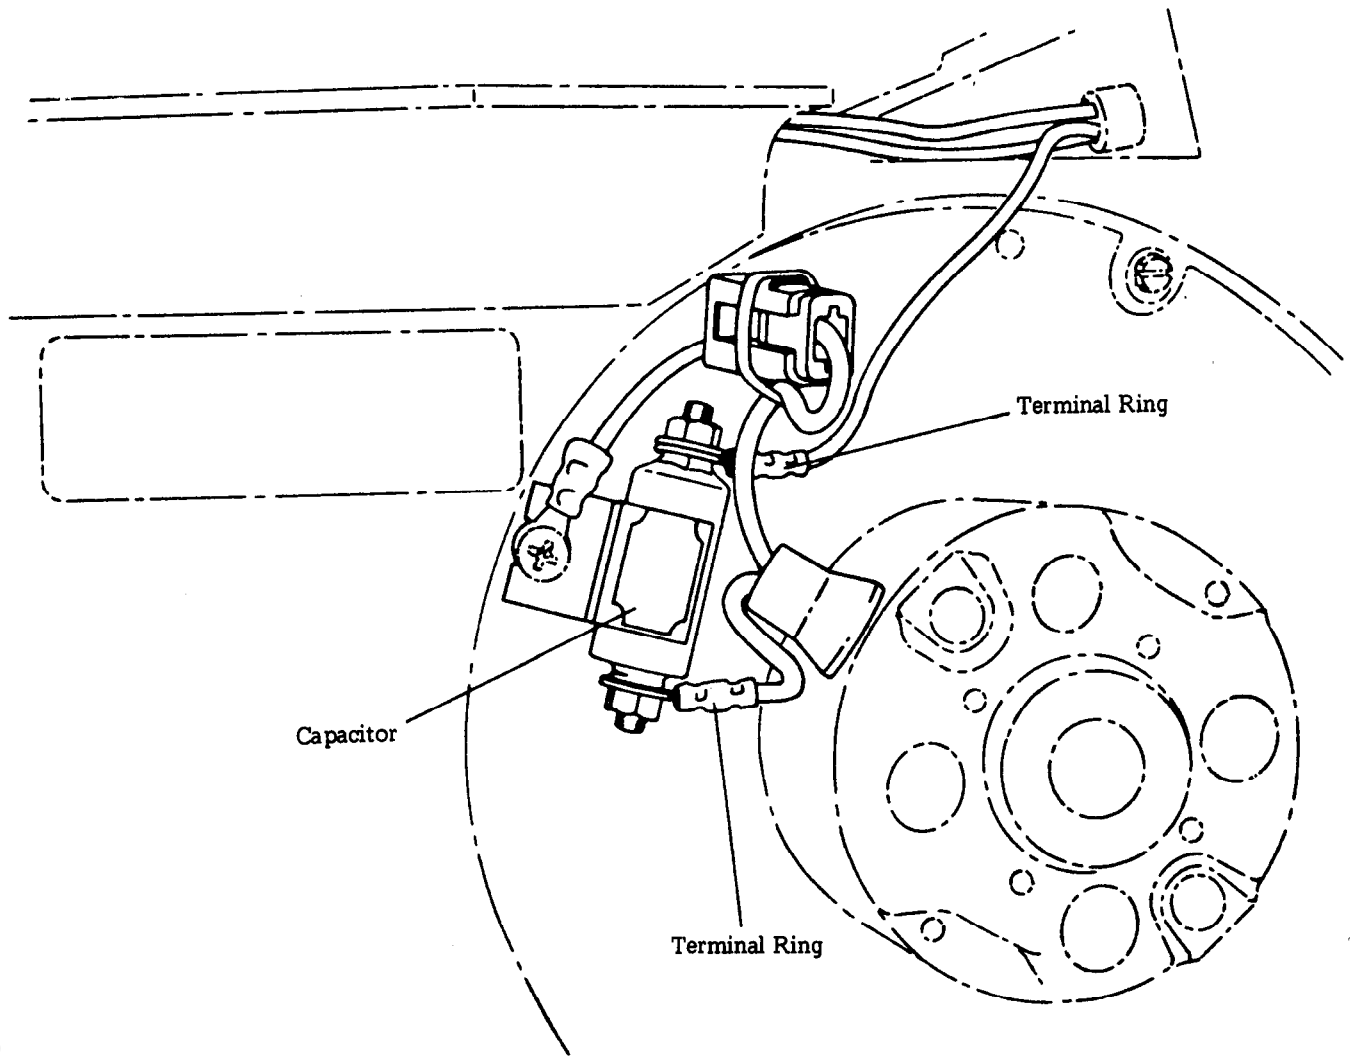

FIG 1 - MOUNTING OF CO-AXIAL CAPACITOR
- a. Trim 10 mm off the end of the capacitor, item 1 from Table 1, mounting tail
- c. Crimp suitable 3/16 inch terminal rings to the ends of the power lead, as illustrated in Fig 1, and fit the leads to the capacitor.